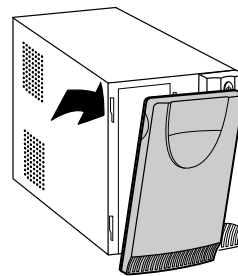

Figure 21 Removing the UPS Front Bezel
- 1 Pull the top left corner forward and remove the UPS front bezel (see Figure 21).